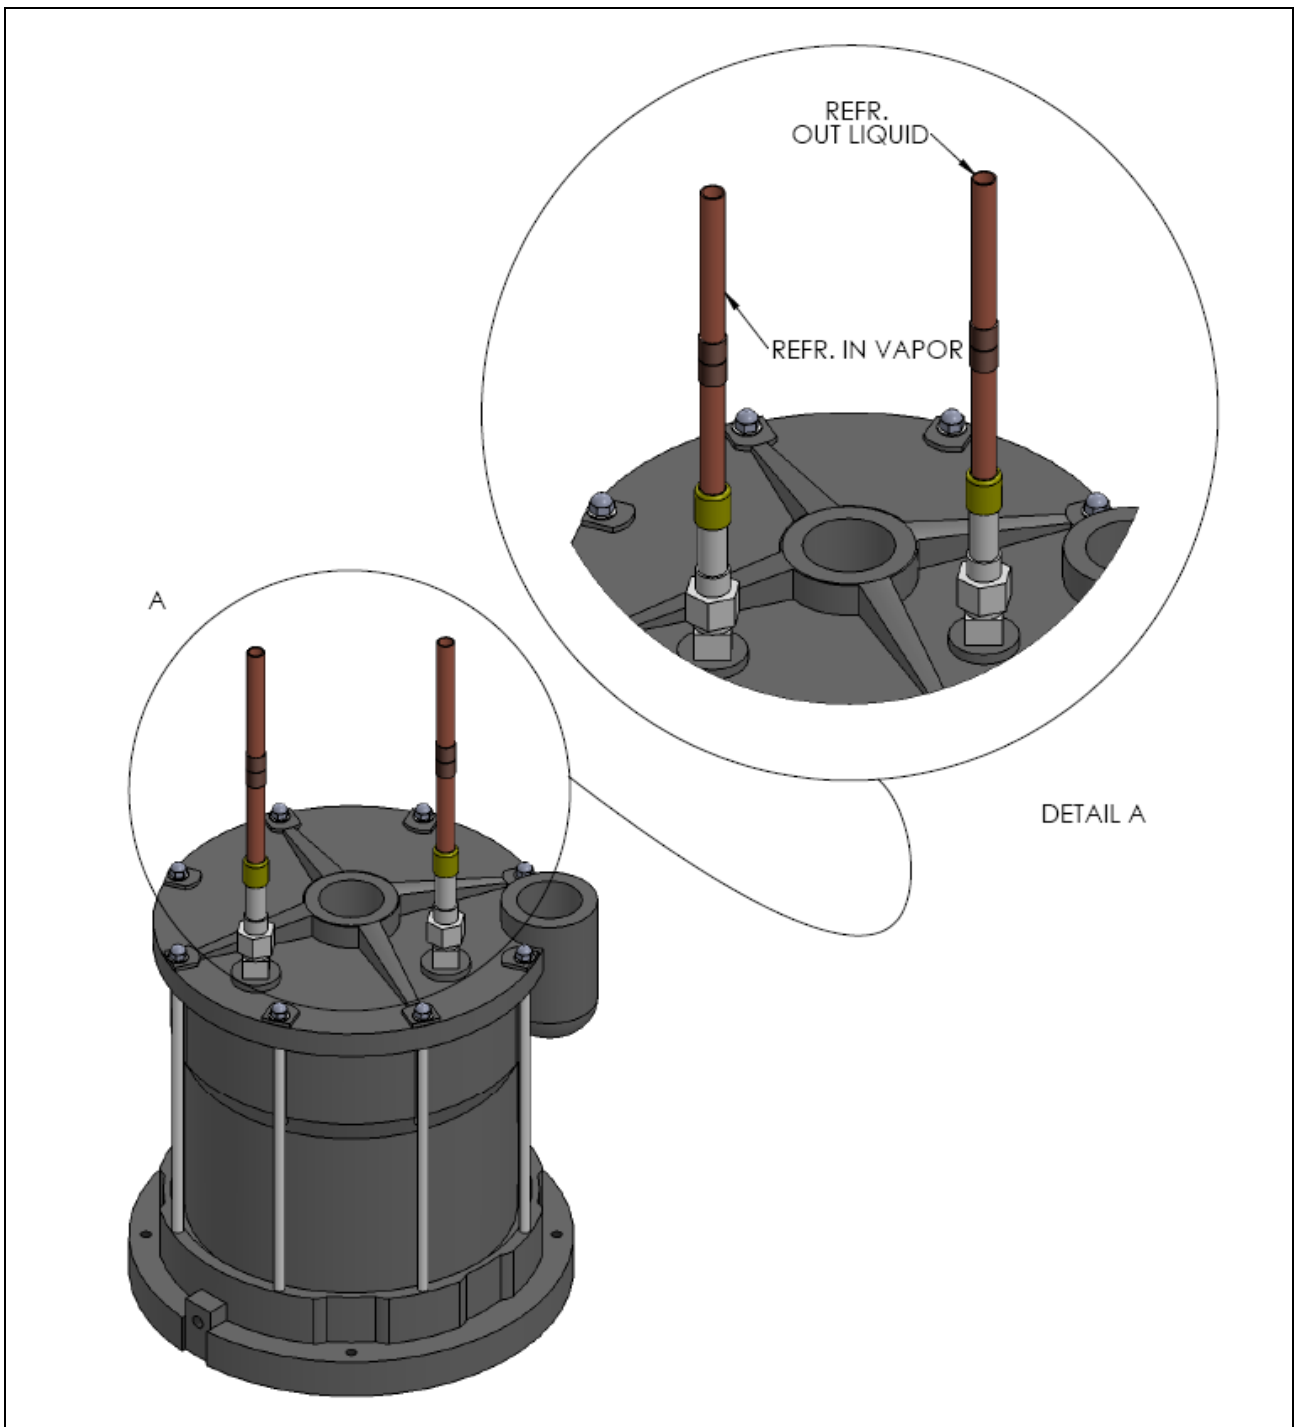
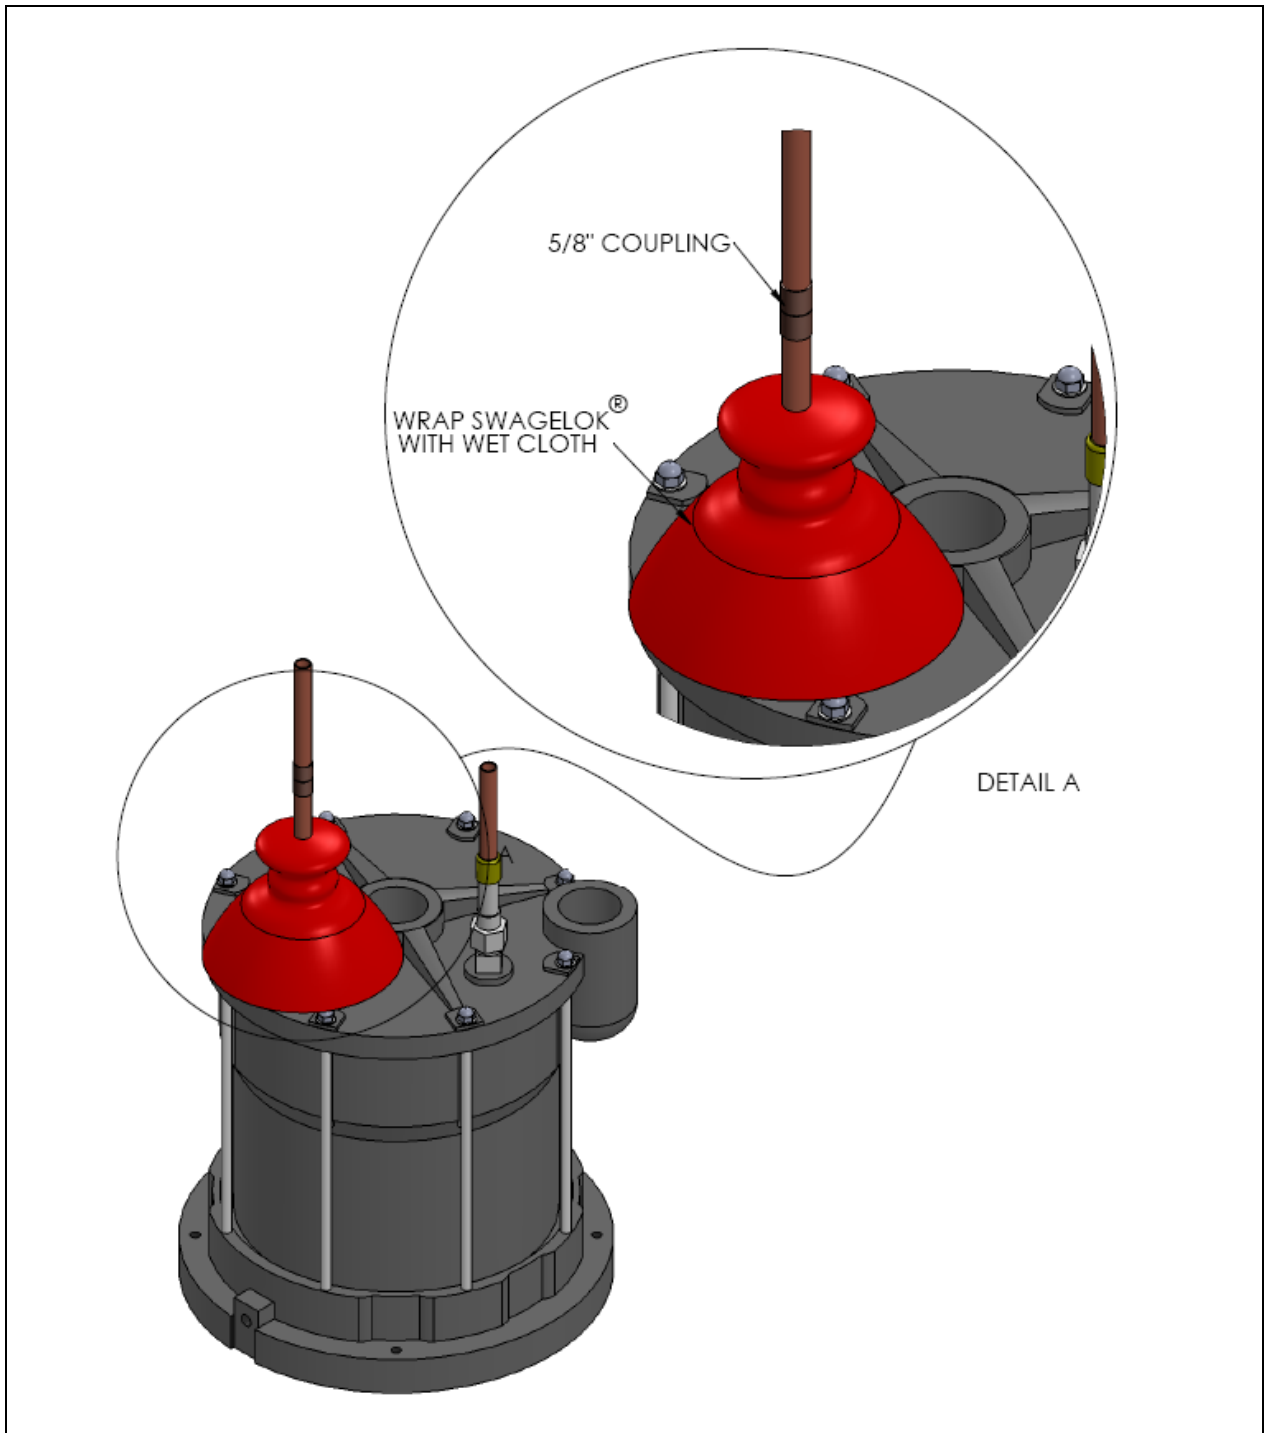

Figure 3. Heat Exchanger Refrigerant Connections
Figure 4. Wrap SWAGLOK[®] Joints
The refrigerant connections are shown in Figure 3. Each connection is 5/8 inch OD copper tube. The refrigerant line connections are brazed as follows:
4. Before brazing the refrigerant joints, protect the SWAGLOK[®] fittings illustrated in Figure 3 by wrapping each joint with a wet cloth, and further protect it from direct torch flame with an inflammable shield as shown in Figures 4, 5 and 6.